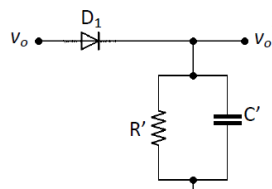

Fig. 2
- Connect up the circuit shown in Fig. 2. The diode  $D_1$  can be chosen as OA79 or any high frequency point contact diode.  $R'$  is chosen as 330 k $\Omega$  and  $C'$  as 1 nF.
- Connect the output of your modulator (Fig. 1) to the input of Fig. 2. Plot the waveform obtained at the output  $v_o'$ . How is this different from the modulating signal  $f_m$ ?